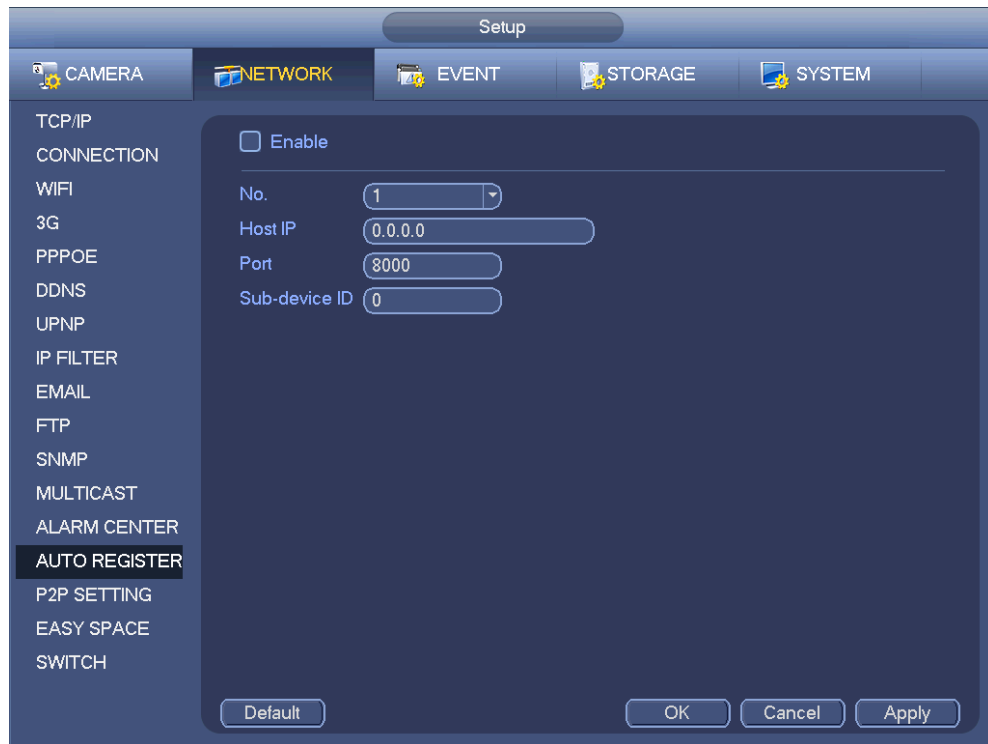

Figure 4-139
1) The setup interface is shown as in Figure 4-139.
- 3) Now you can add device. Please do not input default port number such as the TCP port in the mapping port number. The device ID here shall be the same with the ID you input in Figure 4-139. Click Add button to complete the setup.